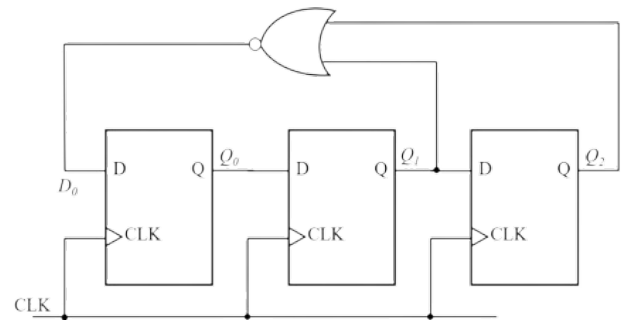

Fig. 5.14
14. The digital circuit shown in Fig. 5.14